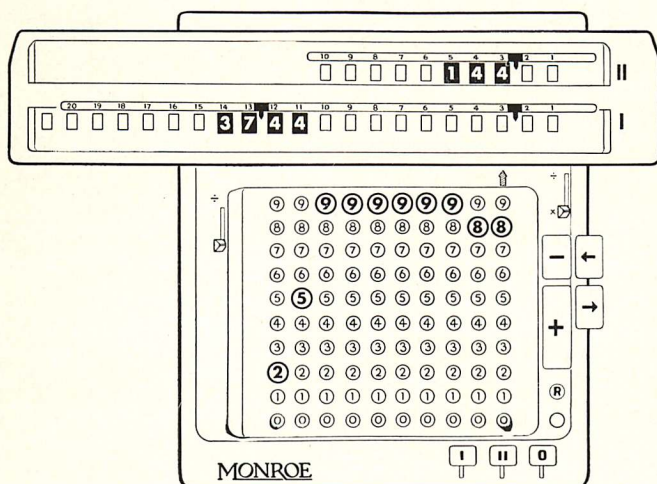

Figure 28
*Step 5*—Move the carriage one place to the left and hold plus bar depressed for four revolutions. The right lower dials are now cleared. The Monroe, as shown in Figure 28, reads: upper dials 144, number of dozens in 1728 pieces; left lower dials at 12th decimal place, the result, 3744.